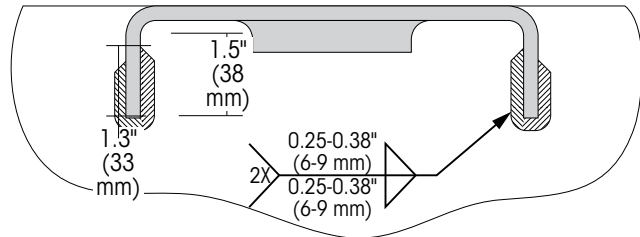

Figure 12: Brake chamber bracket weld specifications
9. **Apply** $\frac{1}{4}$ to $\frac{3}{8}$ inch (6 to 10 mm) fillet weld to each side of the bracket (Figure 12):